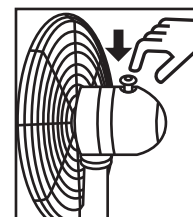

Figure 3
To make the fan head oscillate, push down the knob (K) on the motor housing. To stop the fan from oscillation, pull up the knob (K) – see Figure 3 & 4.